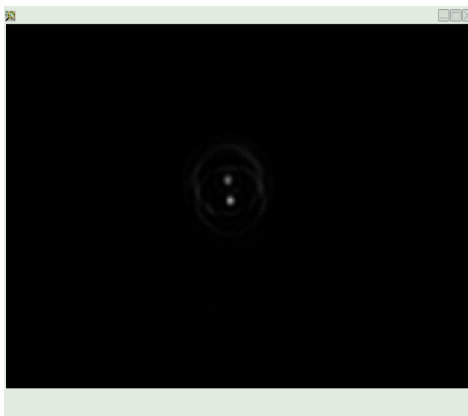

Fig. 4.2: After the laser power is adjusted, the two diffraction patterns have a similar intensity. Here they are almost overlaid
6. Adjust the power of both lasers until both diffraction patterns have a similar intensity (see Fig. 4.2)